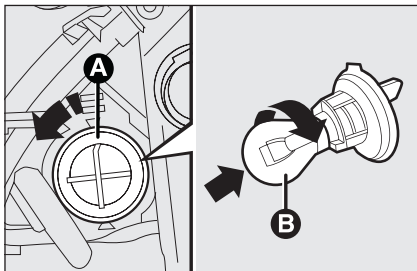

fig. 15
- turn the bulb holder clockwise **A-fig. 15** and withdraw it;